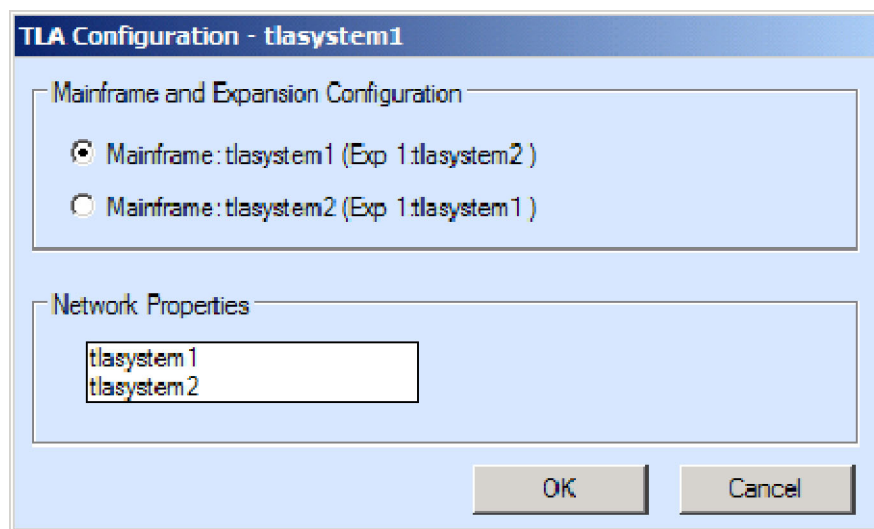

Figure 21: Two instrument configuration
5. Click the **TLA Configuration** icon. The TLA Configuration dialog box opens. (See Figure 21.) Use this dialog box to assign one instrument as the master mainframe and the other as the expansion mainframe.